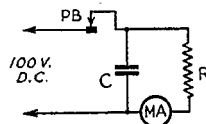

Fig. 7
**Procedure:** Connect the apparatus as shown in Fig. 7. The time constant of such a circuit is the product of the capacity in microfarads and the resistance in megohms, and represents the time in seconds required for the current from the condenser to drop to 37% of its initial value when discharging. To check time it is necessary to determine one-second intervals, for which purpose any sort of device which makes a tick or other audible indication once each second can be used, such as a clock or metronome. The 5-Mc. standard frequency transmissions from WWV also provide one-second time ticks. In setting up the apparatus be careful to keep the circuit well insulated, since leakage becomes important when the resistance is high.
As an example of experimental use of the graph, suppose that the 16- $\mu$ f. condenser and 0.1-megohm resistor are used in the circuit of Fig. 7. On closing the push-button the current should be 1 milliampere with 100 volts applied. Open the push-button and take a reading at the end of exactly five seconds. Say the current at this instant is found to be 0.1 milliampere. Since this is 10% of the maximum current, the quantity  $t/CR$  is found from the graph to be 2.3. Since